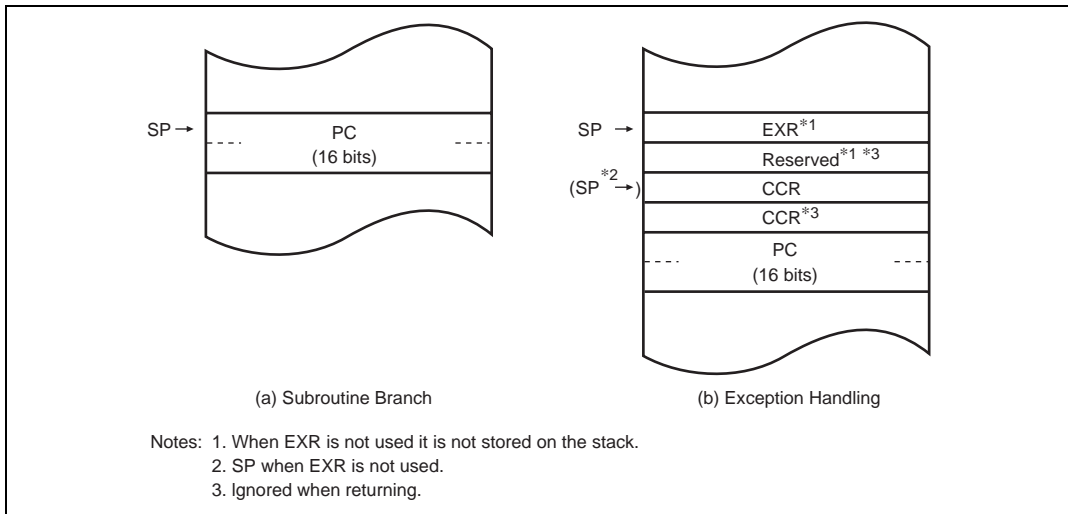

Figure 2.2 Stack Structure in Normal Mode
When the program counter (PC) is pushed onto the stack in a subroutine call, and the PC, condition-code register (CCR) and extended control register (EXR) are pushed onto the stack in exception handling, they are stored as shown in figure 2.2. EXR is not pushed onto the stack in interrupt control mode 0. For details, see section 4, Exception Handling.